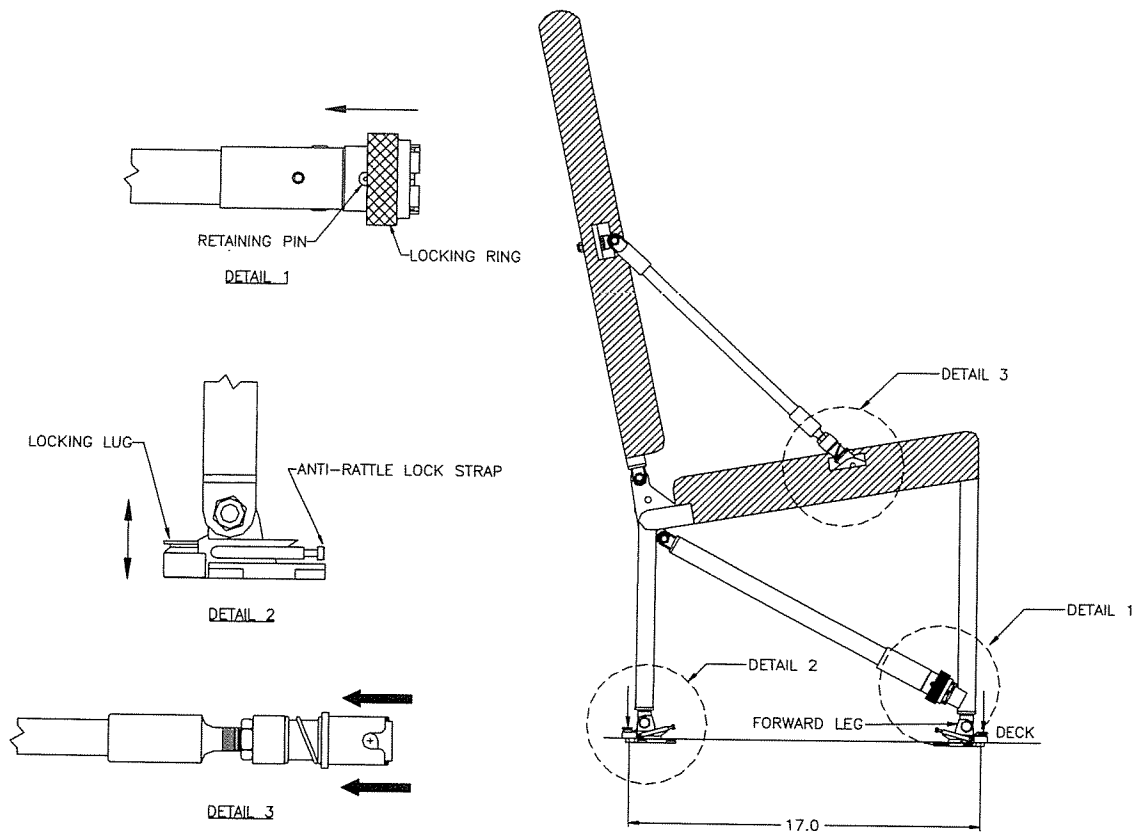

Figure 1.2.1 Seat Installation. Optional Headrest Not Shown
1.2.1 Setup and Installation (see Figure 1.2.1):
1. Unfold forward legs and lower diagonal arms. On each lower arm quick-release fitting, push in the retaining pin and retract the locking ring (detail 1, Figure 1.2.1). Position the arms to align fittings with studs on forward legs. Push forward leg back to engage studs in fittings, then extend locking rings to close jaws.
2. Unfold seat back and upper diagonal arms. Position the arms so the quick-release fittings are over the corresponding pins on the seat frame. Retract the spring-loaded collar on one fitting, push the fitting over the pin, then release the collar. Repeat for the opposite side (detail 3, Figure 1.2.1).
3. Unfold rear legs and position the seat over the seat tracks at the desired fuselage station. Drop the forward feet into the tracks (locking lugs must be in the retracted position), slide forward or aft 1/2 inch, and push the locking lugs down to lock the forward feet into the track (detail 2, Figure 1.2.1).